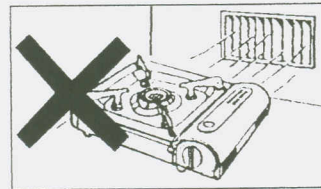

Fig.17
2. Avoid using near strong winds or hot winds. The flame may be put out by a strong wind or hot wind makes the pressure of gas cartridge rise up and it might cause the explosion. (Fig. 17)